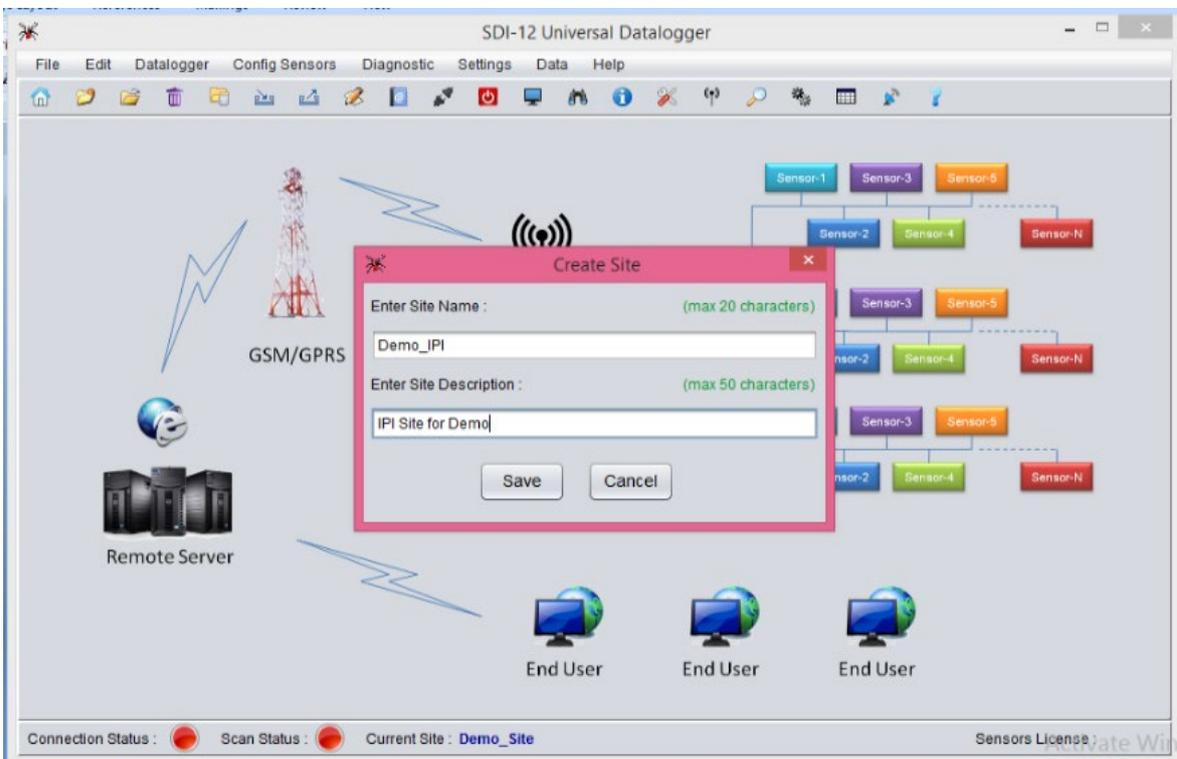

Figure 7-2 Create site window of EDSL-30UNI Configuration Manger Software
- 2 After clicking “Create Site”, a “Create Site” window will appear as shown in figure 7-2 below. Enter “Site Name” and “Site Description”. Then click “Save” button.